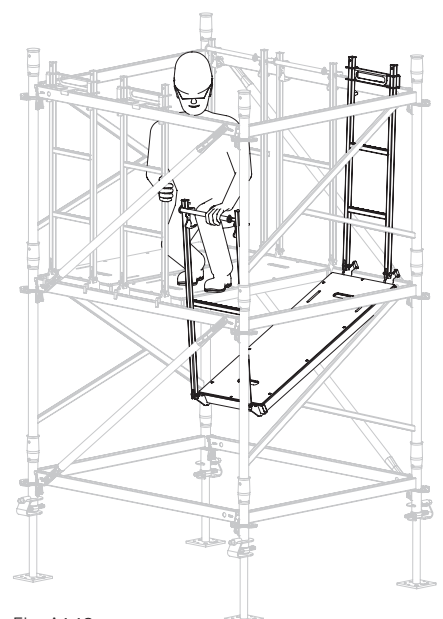

Fig. A1.18
5. Move final deck from above. (Fig. A1.18)